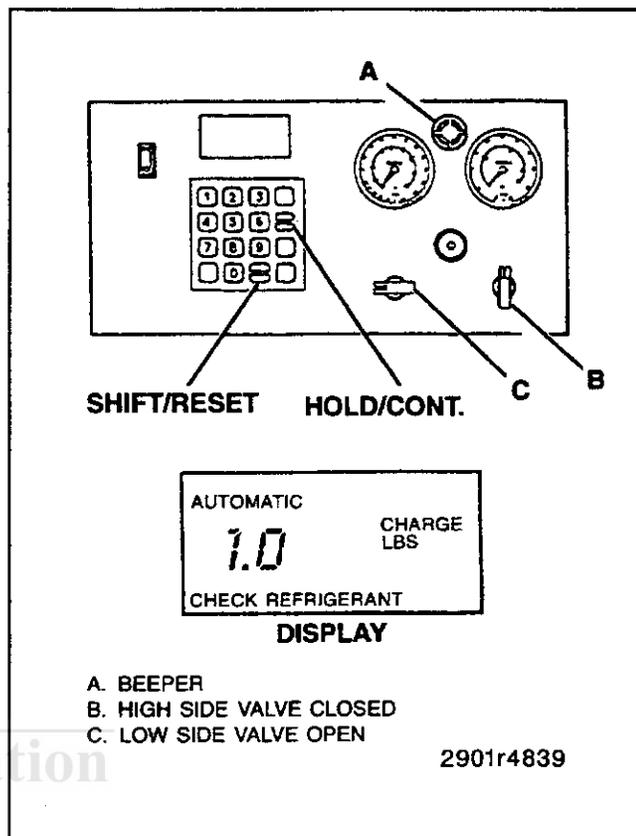

Figure 20—System Charging
- Close the high side valve (B) (figure 20).
- Open the low side valve (C) (figure 20).